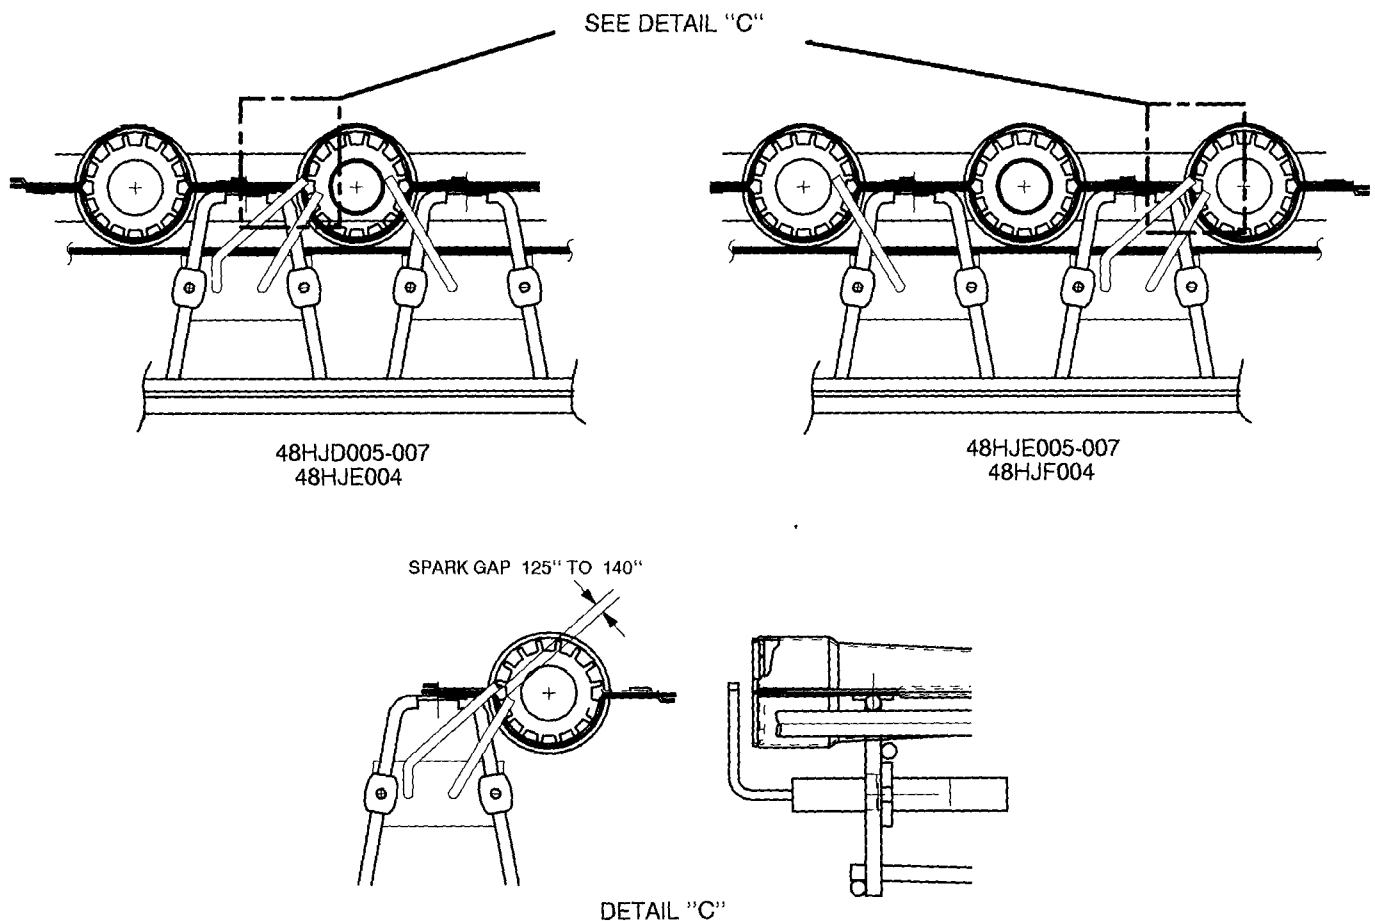

Fig. 35 - Spark Adjustment
4. Adjust spark gap. See Fig. 35.